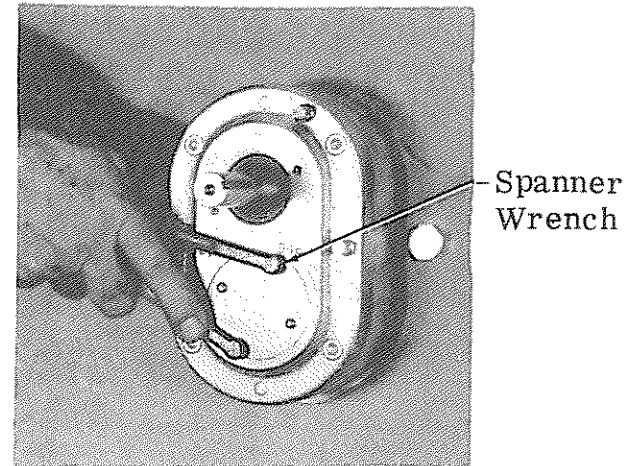

Fig. 3b
- b. Using a Spanner Wrench, tighten one Bearing Adjustment Nut at a time (Fig. 3b).